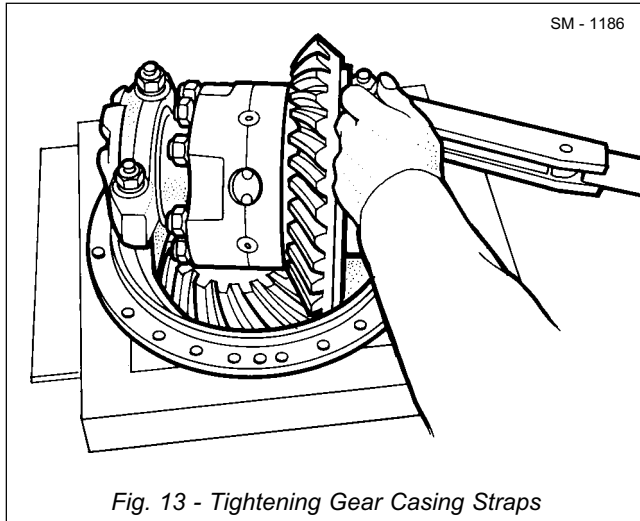

Fig. 13 - Tightening Gear Casing Straps
4. Turn adjusting nuts (16) hand tight against bearings (17 & 17A).
5. Tighten nuts (51) to a torque of 502 - 542 Nm (370 - 400 lbf ft) (See Fig. 13).